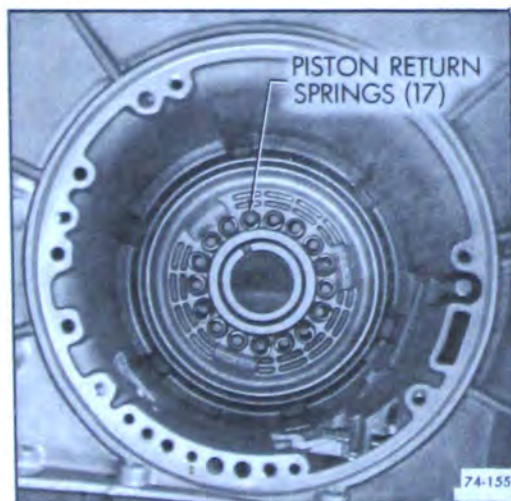

Figure 74-290
4. Install seventeen (17) clutch piston return springs. See Figure 74-290.